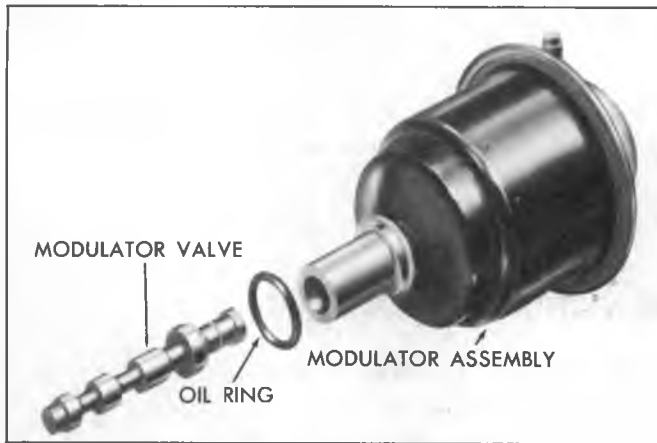

Fig. 110T-Modulator Assembly and Valve
1. Inspect modulator assembly for any signs of bending or distortion (fig. 110T).